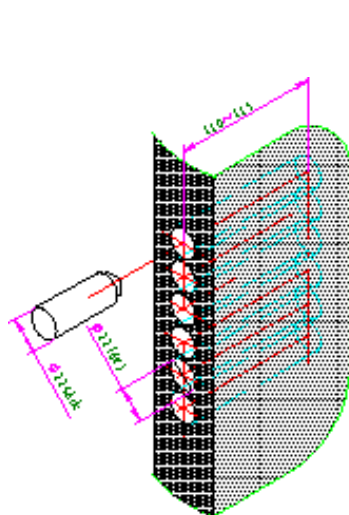

Fig.4
1. Drill the mortise pocket using a $\Phi 22\text{mm}$ bit and chisel. The pocket should be drilled 115~120 deep. Check to be certain the pocket will accommodate the lock. The concrete steps as figure 4, 5.